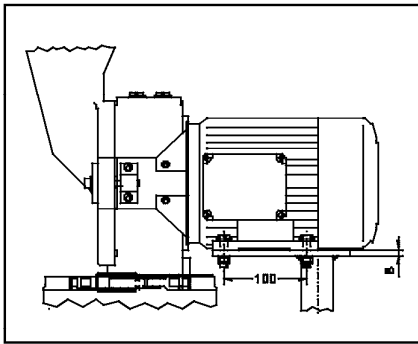

Fig.3
- * Place SK 100 on the base frame Fig. 3
You can mount the SK 100 on your laboratory table. **Fig. 3**